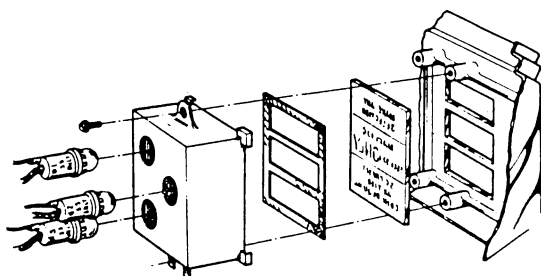

Figure 6. Replacement of Credit Window
- A. Setting up of the Pricing Unit Switchboard and Credit Window Lights for correct indication of credits, Figures 6 and 7.